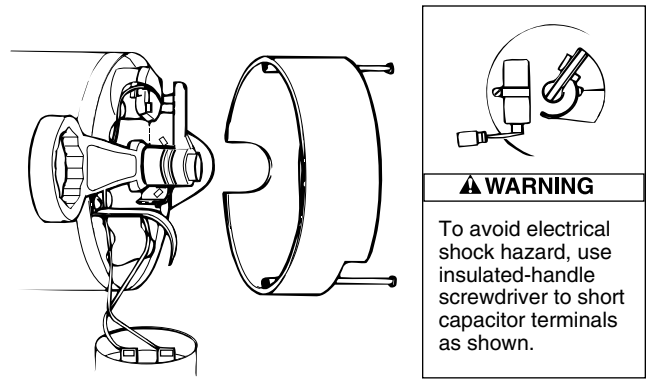

Figure 21 – Hold Shaft
2. If impeller must be replaced, loosen two machine screws and remove motor canopy (see Figure 21).
3. **▲ WARNING** Capacitor voltage may be hazardous. To discharge capacitor, hold insulated handle screwdriver **BY THE HANDLE** and short capacitor terminals together (see Figure 21). Do not touch metal screwdriver blade or capacitor terminals. If in doubt, consult a qualified electrician.